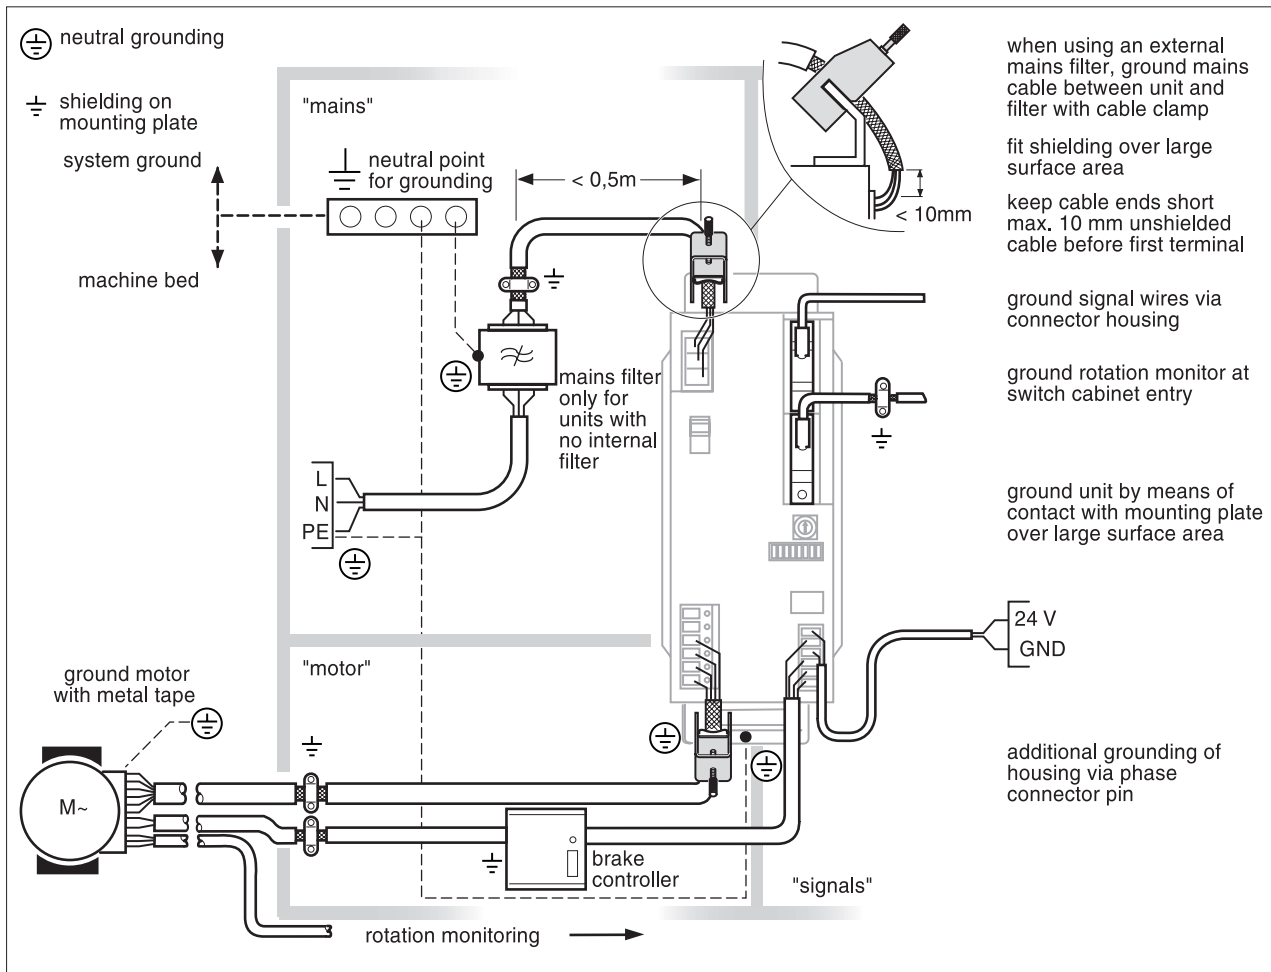

Fig. 4.1 EMC measures
- The power amplifier and auxiliary equipment must be grounded before applying power. Refer to Fig. 4.1 and sections 4.4 and 4.5 of this manual for information concerning the proper grounding of Twin Line product.